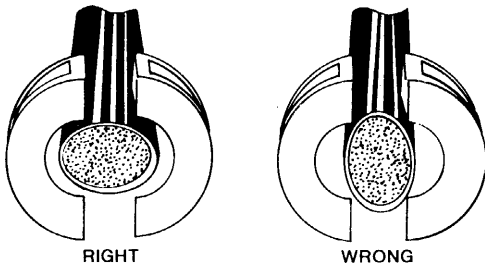

FIGURE 16 - PLACING END PLATE ON CABLE
6.14 Before applying the end plate, use the 800-422 Cable Shaper to produce a slightly oval shape to the cable to prevent pinching the sheath. (Figure 16) **DO NOT OVERSHAPE LEAD CABLES!**